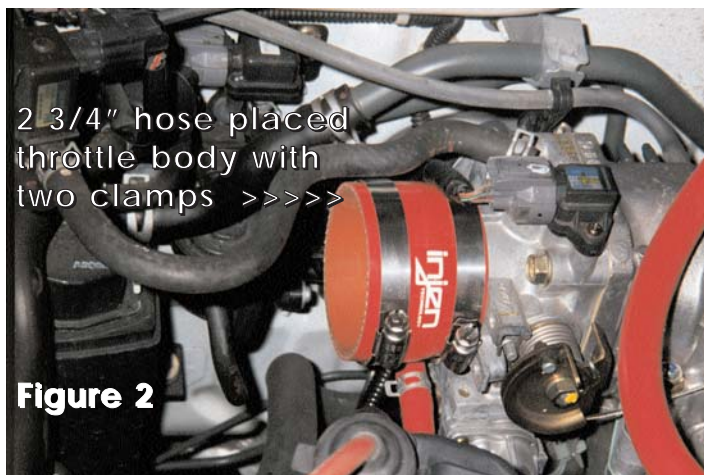

Figure 2
- 5 Place the 2 3/4" straight hose onto the throttle body and use two clamp as seen in figure 2.
- 6 Take the intake and slip the filter end into the resonator hole while gently placing the other end into the 2 3/4" hose on the throttle body. Use two clamps to semi-tighten the pipe in place. See figure 2. When the intake is in location the welded bracket should align with the rubber vibra-mount. Use the 10mm nut and washer to fasten the vibra-mount and bracket in place.